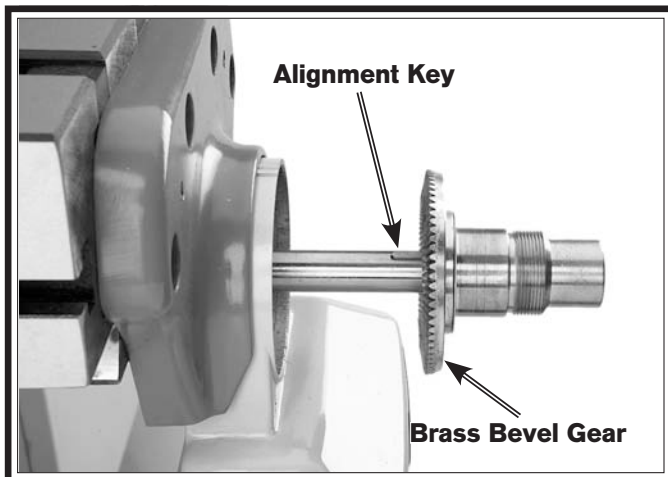

Figure 58. Power feed brass gear and leadscrew alignment key.
- Remove the brass bevel gear from the leadscrew, then remove the leadscrew alignment key (see **Figure 58**).